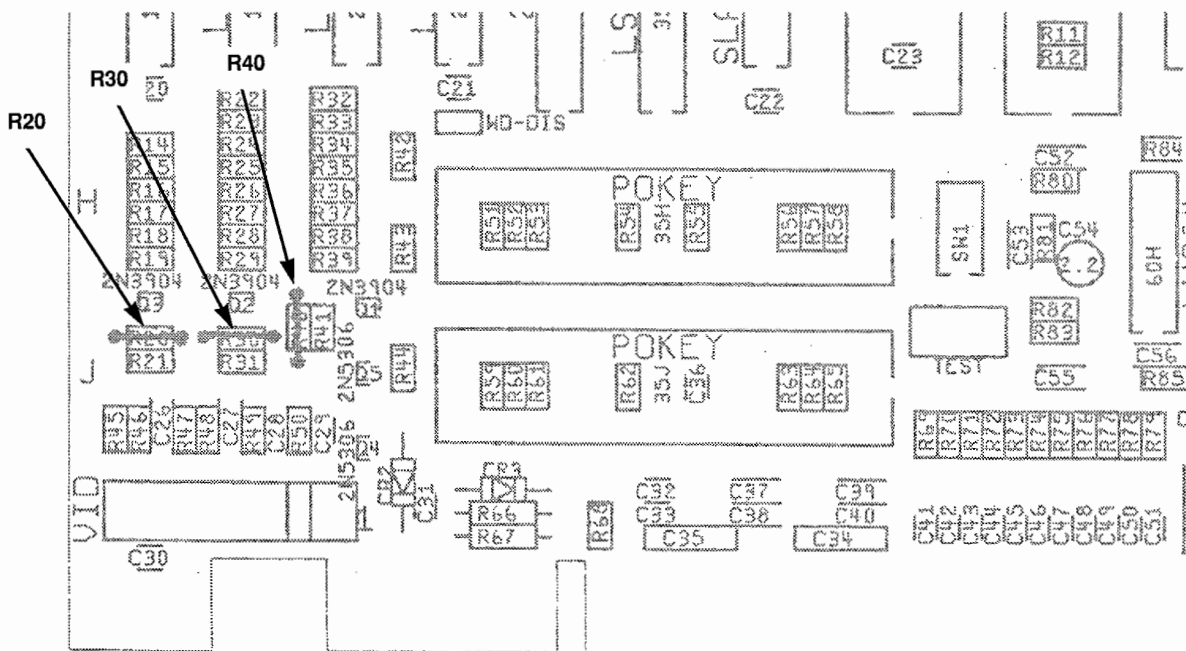

Figure 3-1 Shorting Out Resistors on Tetris Game PCB
- Short out resistors R20, R30, and R40 (see Figure 3-1). This should yield a brighter picture.